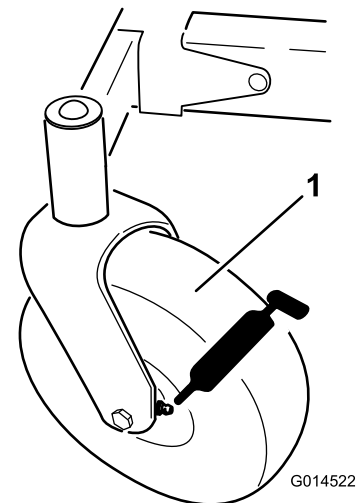
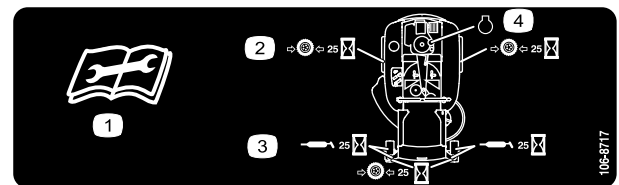

Figure 28
Figure 29
3. Clean the grease fittings (Figure 28 and Figure 29) with a rag.
4. Connect a grease gun to each fitting (Figure 28 and Figure 29).